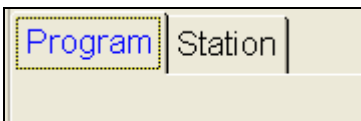

Figure 16.1.6B
- You will automatically start in the **Program** tab section of **Controller Schedule** (Figure 16.1.6B).